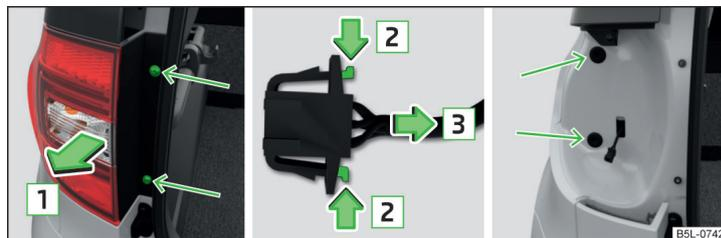

Fig. 204 Remove light / pull out connector
- > Use the screwdriver from the tool kit » page 198, *Vehicle tool kit* to unscrew the lamp » Fig. 204.
- > Grasp the light and carefully remove with shaky movements in the direction of arrow **1** » Fig. 204.
- > Insert the light into the mounts in the body » Fig. 204.
- > Screw the light with the screws into place » Fig. 204.